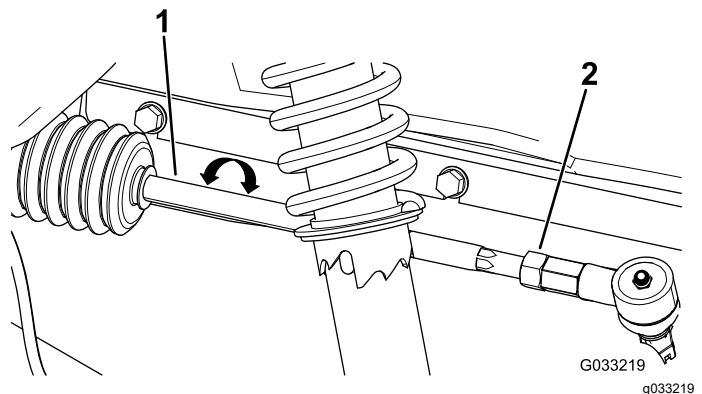

Figure 48
2. If the measurement does not fall within 0 to 6 mm (0 to 1/4 inch), loosen the jam nuts at the outer end of the tie rods (Figure 48).